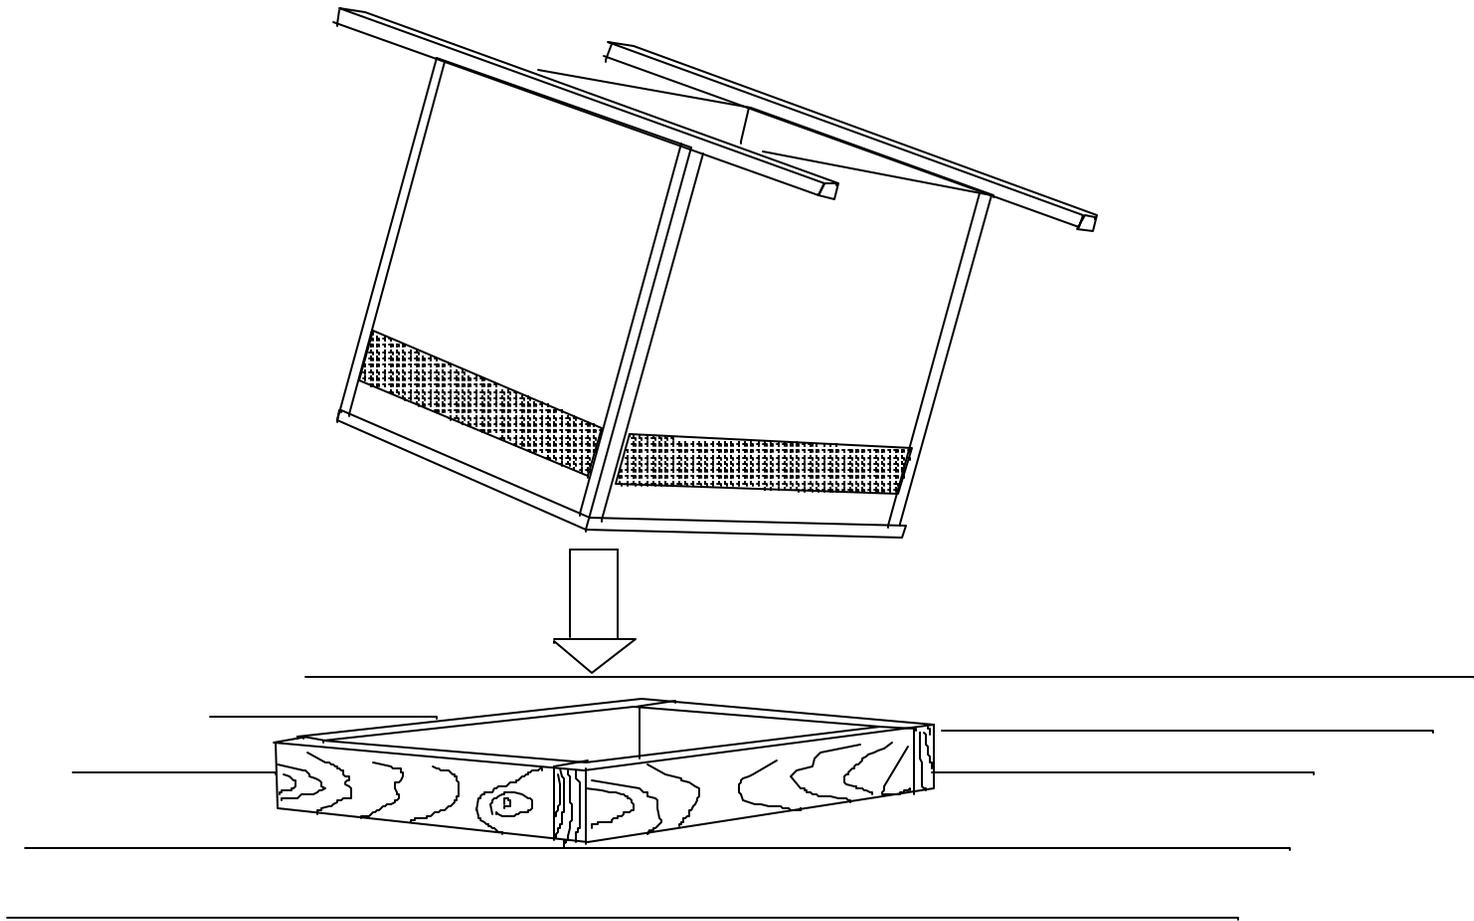

Fig. 7
4. Raise SkyLite up. (2 people recommended) so prismatic lens is pointed downward. Carefully lower SkyLite through SkyLite curb. (Fig. 7)